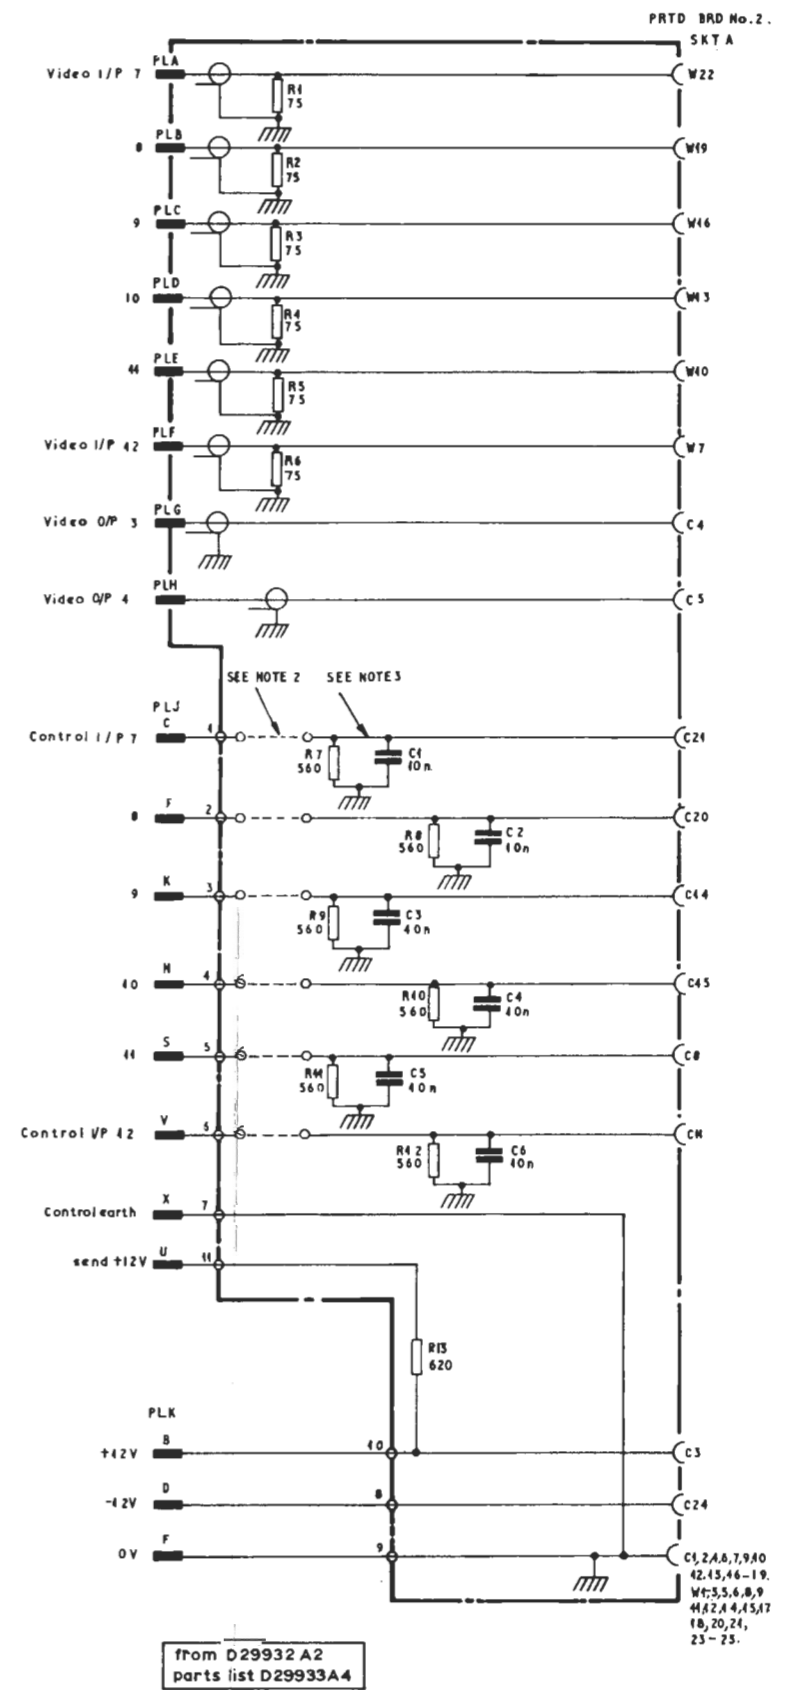

Fig. 2. MA2L/504: Circuit Diagram
A block diagram of the MA2L/504 is given in Fig. 1 and the circuit diagram is given in Fig. 2. The Matrix is available with one of several control-circuit configurations chosen from the range detailed in Table 1.
2. Component numbers refer to MA2L/504 Circuit in Fig. 2.